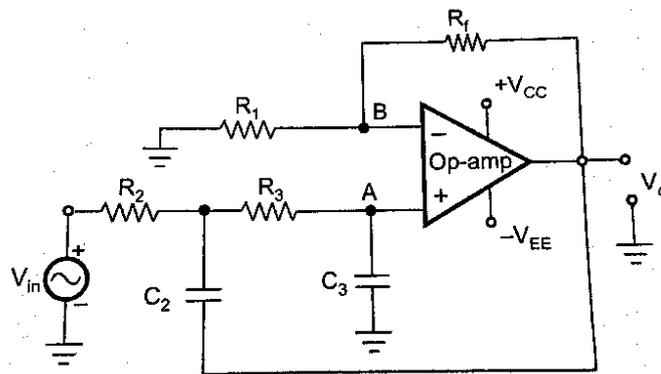

Fig. 3.10 Second Order Low Pass Butterworth Filter
- A first order filter can be converted to second order type using an additional RC network as shown in the fig.3.10.